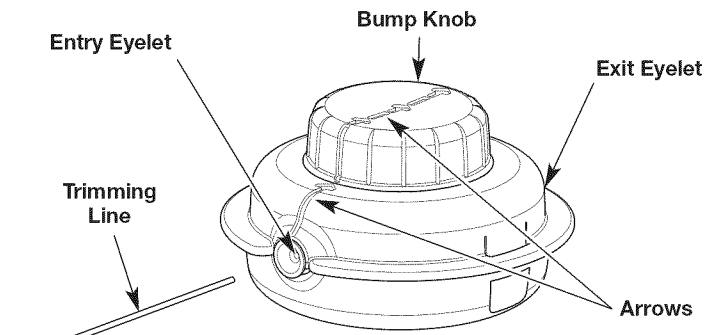

Fig. 8
3. Turn the bump knob clockwise to align the arrows (Fig. 8).
4. Insert the new trimming line into the entry eyelet (Fig. 8). Push the line through the cutting head until a few inches protrude from the exit eyelet. Pull the line until the ends are of equal length.